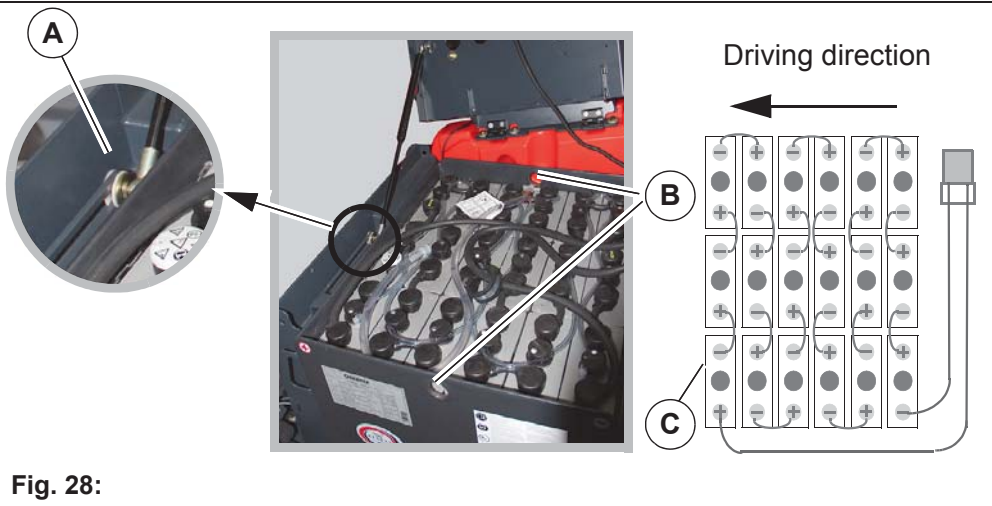

Fig. 28:
3. Open the seat console all the way **Fig. 28-A**.
5. Attach crane gear to eyelets of the battery trough **Fig. 28-B**.
Please ensure that the trough battery is in the correct installation position! See connecting diagram **Fig. 28-C**.